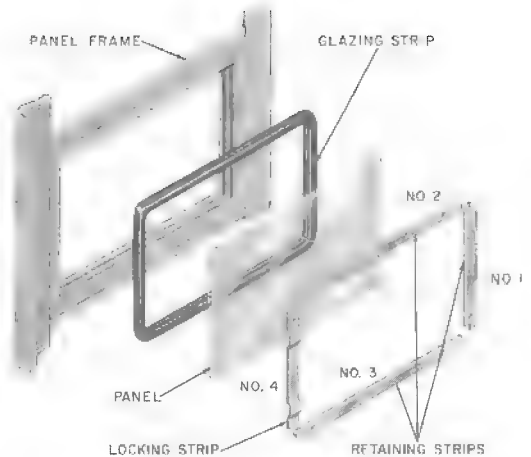

Fig. 22—Assembly of Side or Rear Panels
4.08 Booth panels and signs are held in place by four interlocking retaining strips. They are inserted in sequence as shown in Fig. 22. The No. 4 strip is ripped and is held in place by interface friction.
- (1) Remove No. 4 locking strip.
- (2) Remove retaining strips No. 2 and 3.
- (3) Remove retaining strip No. 1.
- (4) Remove panel and rubber glazing strip.
- (5) Apply rubber glazing strip to replacement panel.
- (6) Insert panel into frame with the beaded edge of glazing strip on the outside.
- (7) Replace retaining strips in sequence as shown in Fig. 22.
4.13 After roof is removed, the side and rear signs are removed in the same manner as the side panels (see 4.09 and Fig. 22).
4.34 Replace glass panels in similar manner as side panels (Fig. 22).